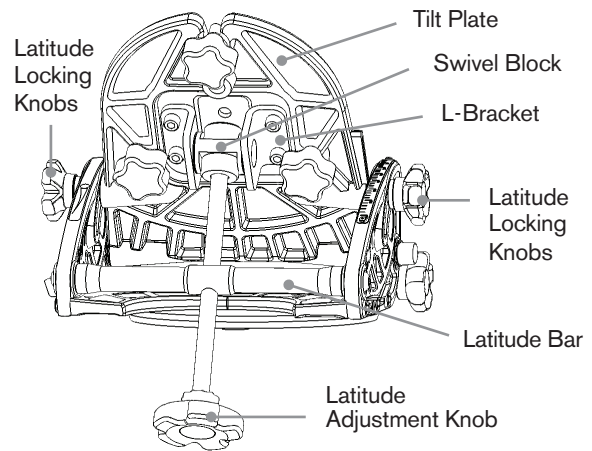

Figure 2
1. Loosen the two latitude locking knobs on both sides of the wedge (Figure 2).
1. Loosen the two latitude locking knobs (located on the side of the wedge) that secure the tilt plate. (See Figure 2).